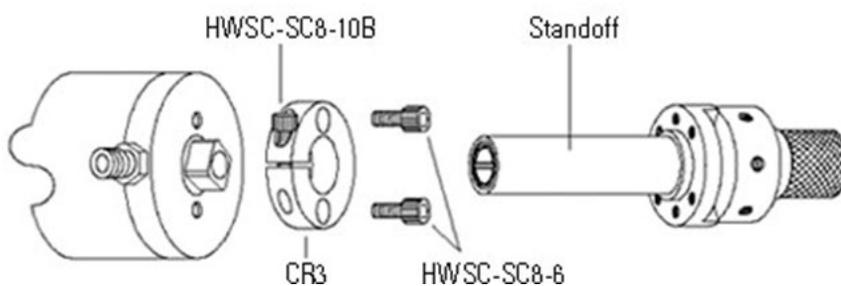

Figure D-5. Disassembly
2. Remove the valve and valve-mounting hardware from the actuator (as shown in Figure D-5):